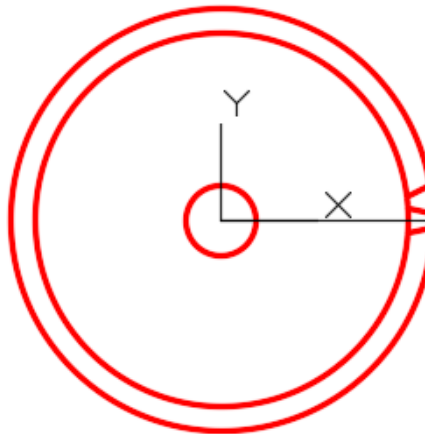

Figure Step 7
Step 7 Turn layer: Construction off and your drawing should appear as shown in the figure. (Figure Step 7)